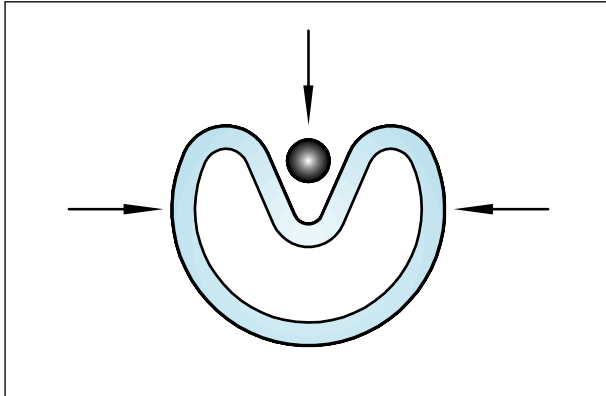

Figure 18 Kidney-shaped deformation of the seal ring
- Compress the Turcon® part into a kidney shape. The seal must have no sharp bends (see Figure 18). Use a rounded object to compress the Turcon® part without pinching, creating smooth curves.